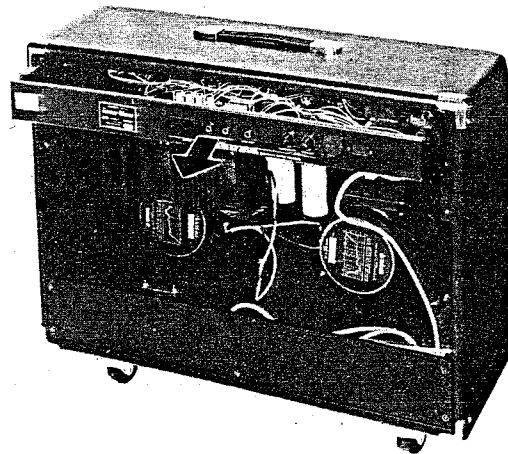

Figure 4
4. To remove the amp unit from the cabinet, pull it forward as shown in Figure 4.